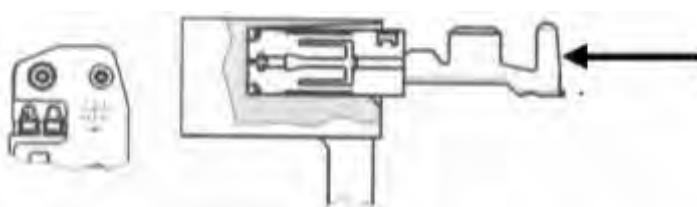

Figure 82
(1) Insert contact to be crimped into the pliers as shown in Figure 82.